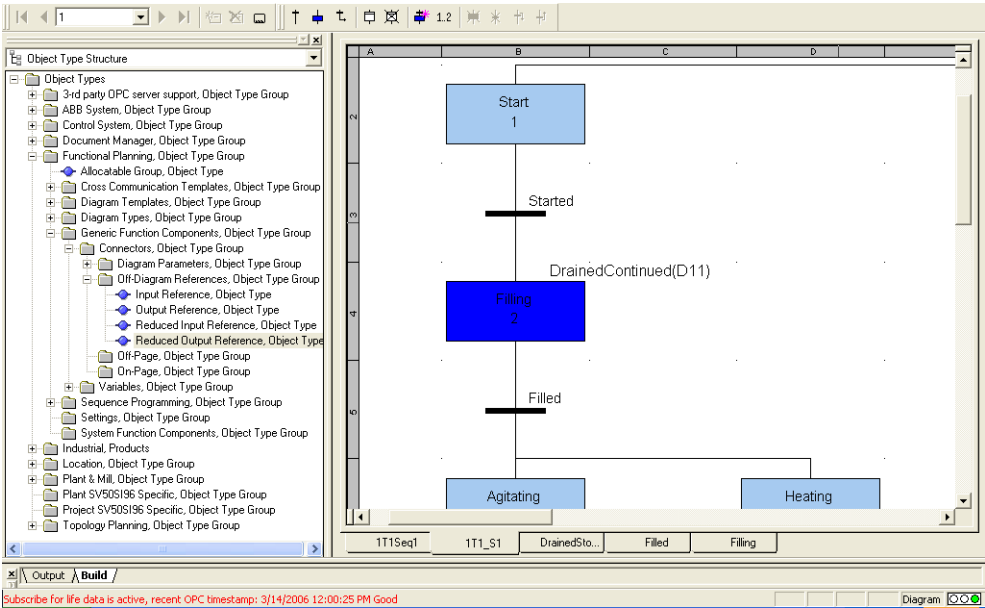

Figure 50. Overview Diagram On-line, Step Filling Active
- the sequence overview diagram, see Figure 50 the first figure below.